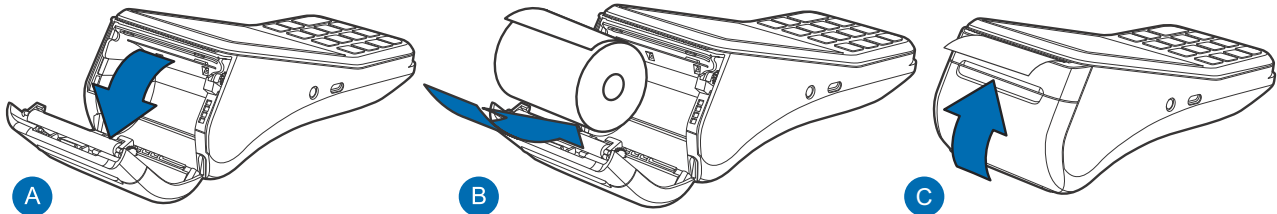

Figure 10 Procedure for Loading Paper Roll
- 2 Load the paper roll as shown in Figure 10, with the edge of the paper on the top of the roll.